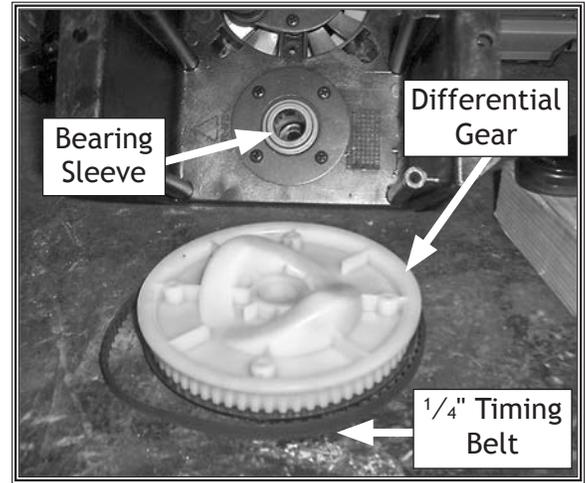

Figure 23. Location of bearing sleeve, with differential gear and $\frac{1}{4}$ " timing belt removed.
13. Make sure bearing sleeve (#58) shown in **Figure 23** behind differential gear (#57) stays in place.
14. Remove $\frac{1}{4}$ " timing belt (see **Figure 23**).